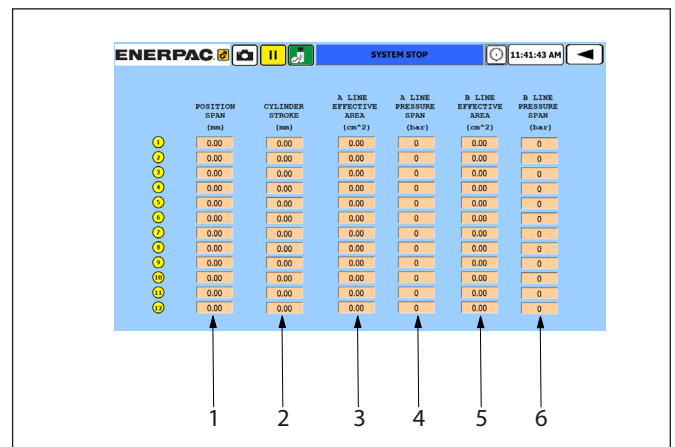

Figure 86: EVOP Spans Parameters
2. Hydraulic power unit: The user can select the HPU to apply the parameters (see Figure 86).
The user can access to the Spans Parameters screen pressing on the HPU icon. In the boxes the user can type the following data (refer to Figure 86):